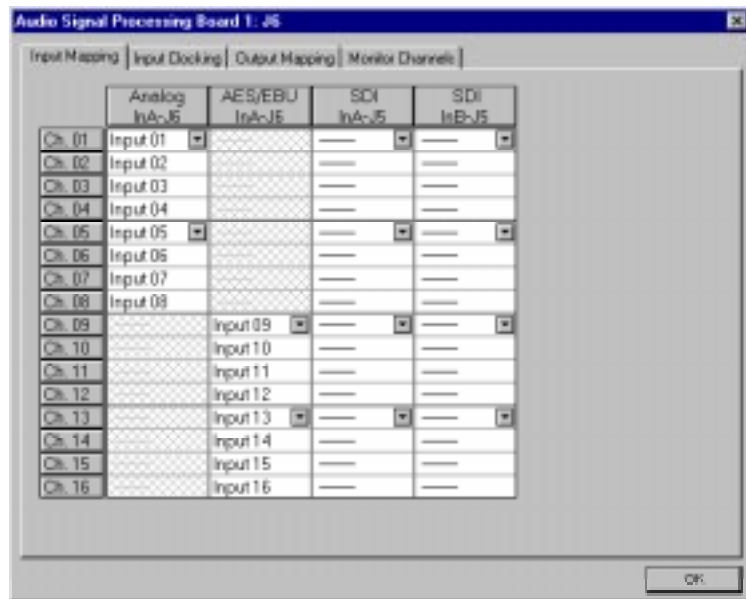

Figure 40. Audio Configuration dialog box, Input Mapping tab
The Audio Configuration dialog box shown in Figure 40 allows you to configure input and output channels, input clocking, audio quality and monitor channels.
The Input Mapping tab is used for mapping input sources to Profile channels, while the Output Mapping tab is used for mapping Profile channels to output destinations. For example, you can map Profile Audio Chassis (PAC) input sources and serial digital audio input sources. Figure 40 and Figure 41 illustrate a sample configuration: a Profile unit with an audio signal processing board, a PAC 208 chassis (with A/D and D/A convertors and connectors for eight channels), and two serial digital cards providing eight analog audio channels, eight digital audio channels, and four video channels with 16 embedded audio channels each.
The columns represent the sources to the sixteen channels on the input side and the destinations from the sixteen channels on the output side. The examples in Figure 40 and Figure 41 illustrate the system with a PAC 208 chassis allowing the selection of analog channels 1–8 and digital channels 9–16. A PAC 216 chassis, however, provides sixteen analog inputs and outputs or sixteen digital inputs and outputs. For the PAC 208, rows 9 through 16 of the analog channel column, and rows 1 through 8 of the AES/EBU channel column, are cross-hatched to indicate that these channels are not selectable. In Figure 41, in the column labeled AES/EBU, rows 9–16 appear dimmed, indicating that this audio type is always mapped and cannot be unmapped. Attempting to remap this section results in an error message.
The number of columns in the mapping grid depends on the number of possible input or output audio types that may be mapped to or from the disk recorder channels. The grid is used for selecting which of the possible input or output audio sources and destinations to map to the channels. Audio channels are mapped in groups of four channels only, and the four audio channels are always mapped to consecutive disk channels. For example, analog channels 1–4 (Input 01–Input 04) in the first column of Figure 40 are mapped to the first four disk
1. Choose **Option | Audio Configuration Board 1 or 2** or click an ASPB Configuration button. The Audio Configuration dialog box appears (Figure 40).